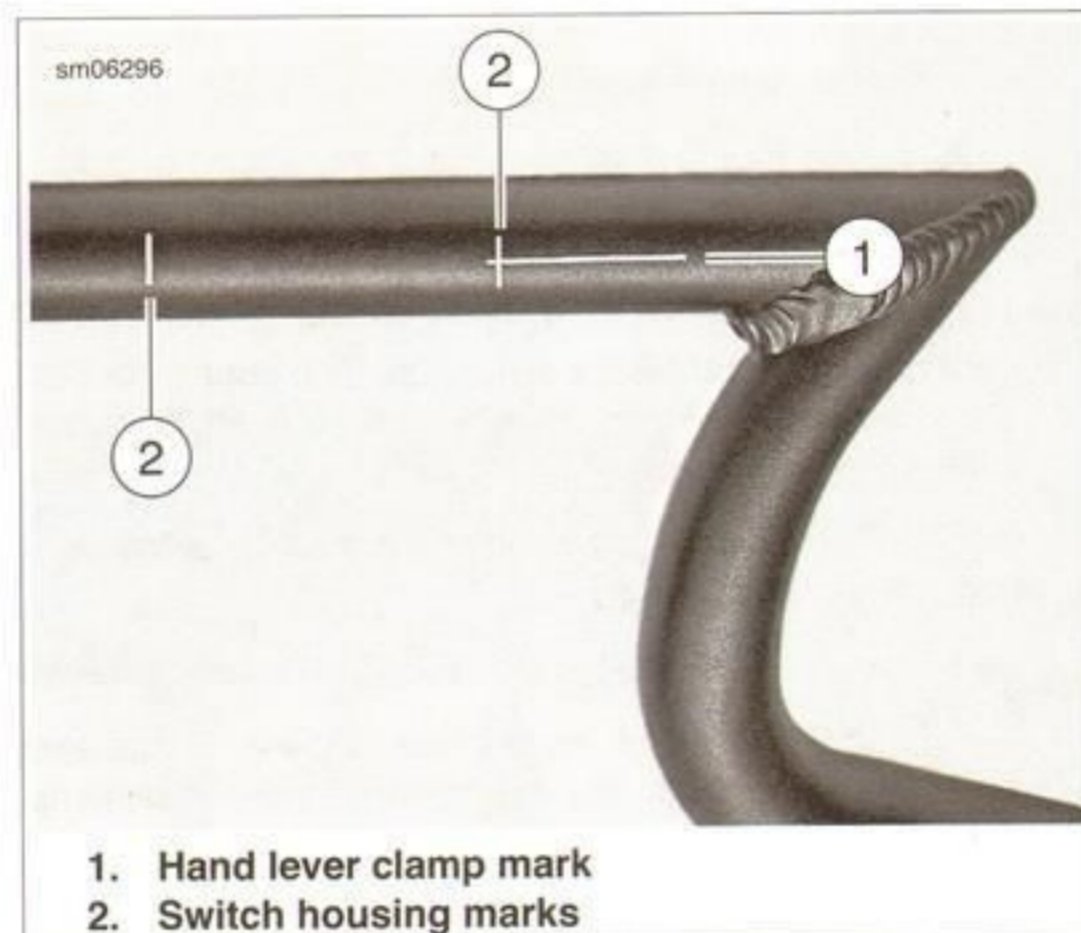

Figure 7-101. Hand Lever Clamp and Switch Housing Marks: 1125CR
- 1125CR:** See Figure 7-101. Adjust the switch housings to align the housing between the two etched lines (2) on the handlebar.